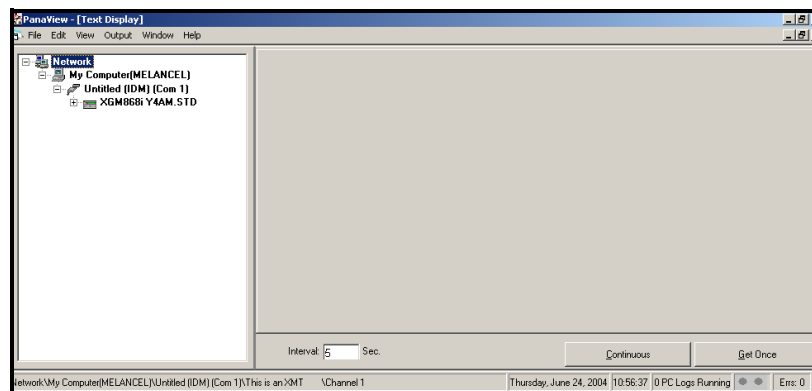

Figure 3-4: The Text Display Window
2. Using the *Window* menu, as described on page 5-19 of the *PanaView User's Manual*, arrange the open windows in the desired format. For this discussion, Figure 3-4 below shows the *Text Display* window in its maximized (full-screen) size.
5. Before actual data values can be displayed in the text pane, activate one of the following data collection modes (see Figure 3-4 above):